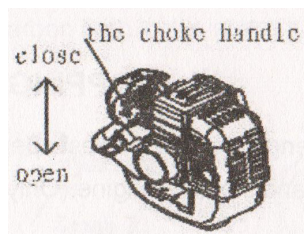

Fig: 5
3. If the engine is cold, close the choke totally.(Fig 5).